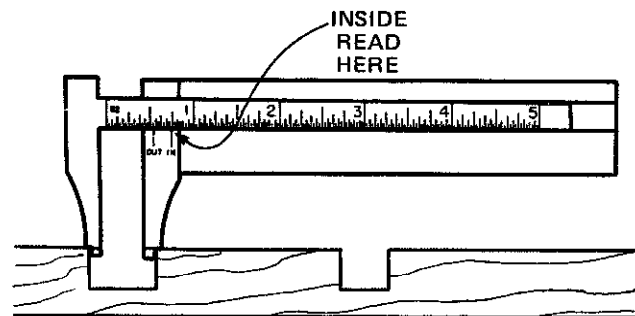

Fig. 2-19 Application of caliper rule for taking an inside dimension
2. Insert the round into the opening. Move the sliding rule outwards until both rounds lightly touch the sides of the openings as shown in figure 2-19.